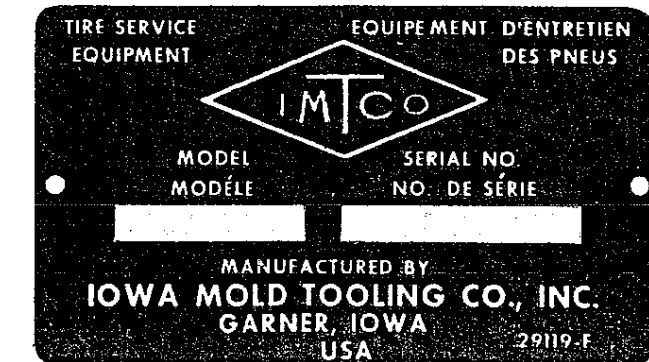

Figure F-1. Serial Number Placard
Every unit has an identification placard (Figure F-1) attached to the mast. When ordering parts, communicating warranty information or referring to the unit in correspondence, always include the assigned serial number and model number. All inquiries should be addressed to Iowa Mold Tooling Co., Inc.; 500 Highway 18 West; Garner, Iowa 50438 or telephone (515) 923-3711.